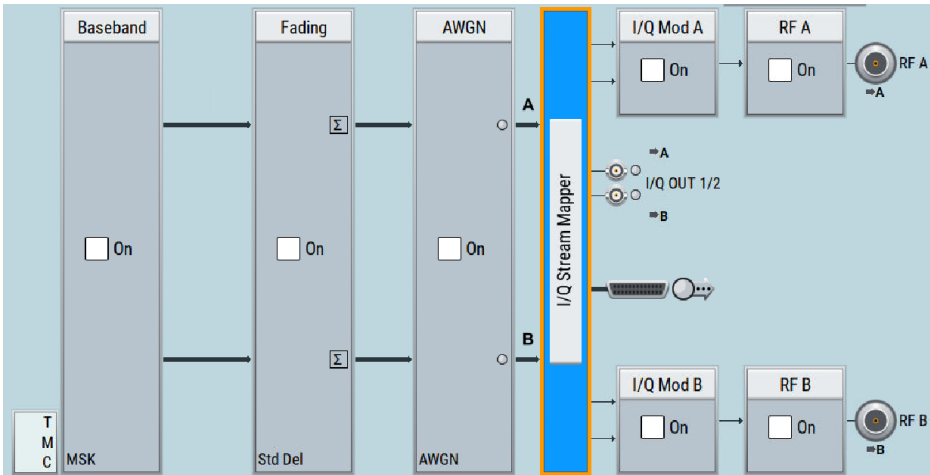

Fig. 7-3 2x2 MIMO system structure on SMW200A
- c) Press "**Apply**" to save the settings and then press "**OK**" to exit the system configuration. The system structure as shown in Fig. 7-3 shall appear.